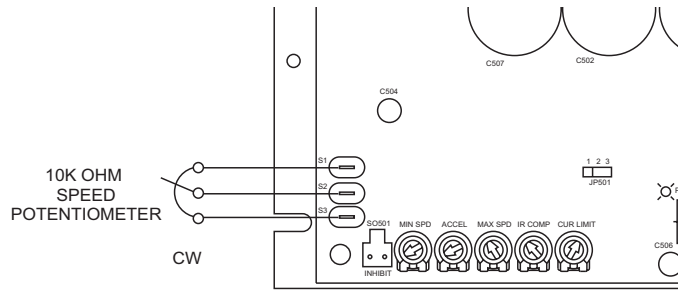

Figure 4. Speed Adjust Potentiometer Connections
- Figure 4. Speed Adjust Potentiometer Connections8